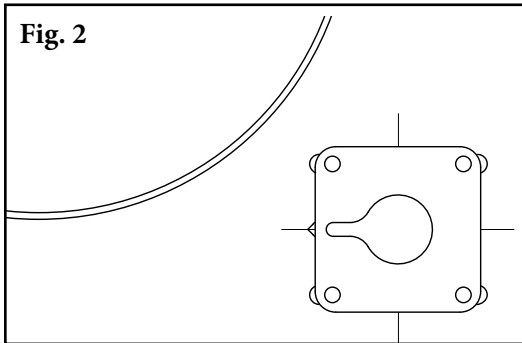

Fig. 2
3. **Install the mounting plates.** Bolt the mounting plates to the chute with bolts provided. Center plates on the slotted holes and tighten bolts (Fig. 2). Use included lock washers against the mounting plate surface to ensure a grounded connection.